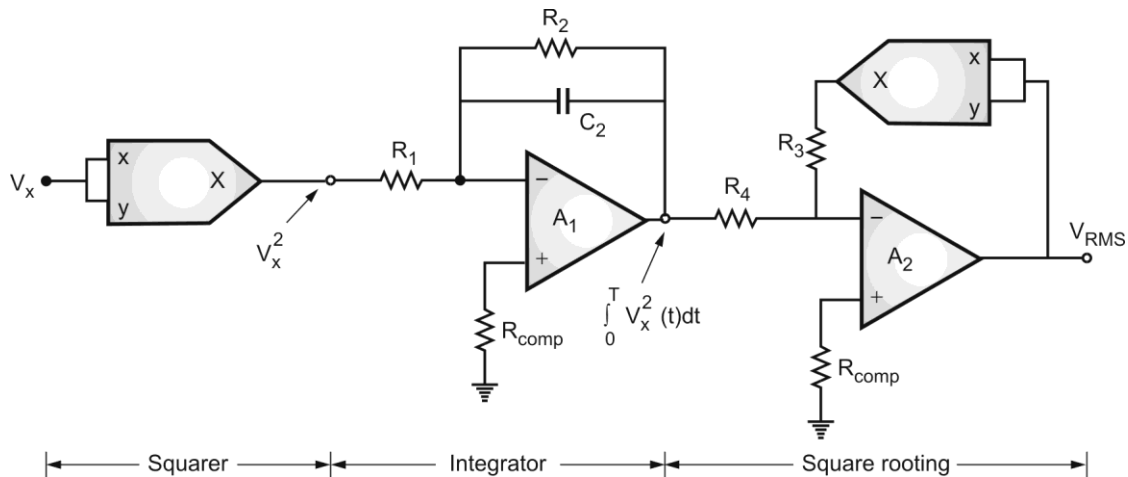

Fig. 5.6.4 : RMS detector circuit
- Fig. 5.6.4 shows the circuit diagram of RMS detector. It consists of following stages, namely :